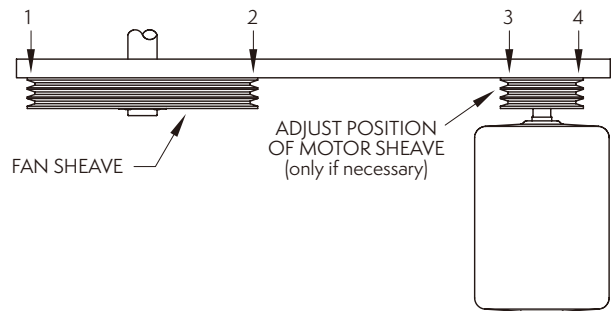

Figure 18 – Sheave Alignment Check
9. As a final check, lay a straight edge from sheave to sheave as shown below in **Figure 18**. There should be four-point contact. Adjust the position of the motor sheave as necessary until four-point contact is achieved.